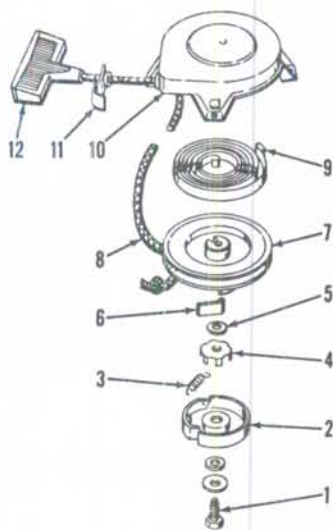
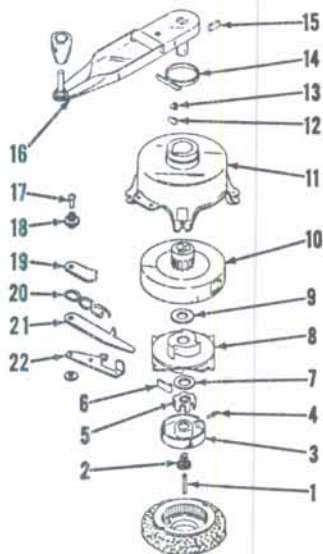

Fig. T1-17—Exploded view of recoil starter typical of that used on most models.
Fig. T1-18 — Exploded view of impulse starter used on some models.
Recoil starters similar to the one shown in Fig. T1-17 are used on most models. The impulse starter shown in Fig. T1-18 may be used.
To overhaul the recoil starter, remove and invert the assembly. Pull starting rope until notch in rope pulley is aligned with rope eyelet in housing. Hold pulley with notch so aligned by grasping pulley and housing firmly; and feed rope into inside of housing until enough slack is obtained to unwind two turns of rope from pulley groove. Slowly release pulley and allow recoil spring to completely unwind. Remove pulley retaining screw (1—Fig. T1-17) and withdraw pulley assembly, making sure recoil spring (9) remains in recess in pulley. When re-assembling, pre-load the recoil spring (9) two full turns when handle (12) is resting against rope guide (11).
To disassemble the impulse starter shown in Fig. T1-18, first pull release lever (21) and allow spring to unwind; then, unbolt and remove starter assembly from power head. Remove centering pin (1) and brake screw (2). NOTE: Brake screw (2) has a left-hand thread. Note the position of spring (4) with relation to cover (8), while lifting off retainer (3). When retainer is removed, check to see that brake (5) is friction tight on hub of retainer (3) and check starter dog (6) for wear. Spring and keeper assembly (10) is available only as an assembly and should not be disassembled. Clean the parts thoroughly, renewing any which are damaged or worn. Lock dog spring (13) should hold lock dog (12) firmly away from wall of hub in housing (11). Coat the parts with a light, waterproof grease when reassembling, and make sure that lock dog (12) engages notches in spring and keeper assembly (10).